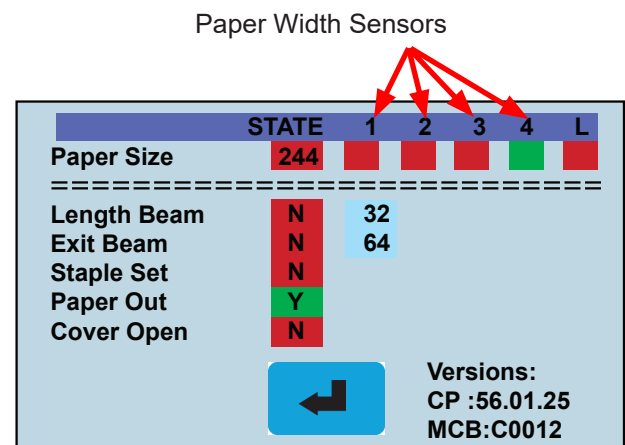

Fig. 65
1. From the Service mode menu select the Sensor Test Icon “  ”. The Sensor Test Screen will be displayed (Fig. 65).